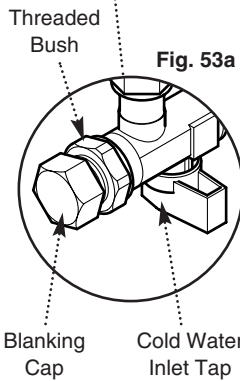

Fig. 56
21. Undo the filter cartridge from the inlet/return manifold (Fig. 56).